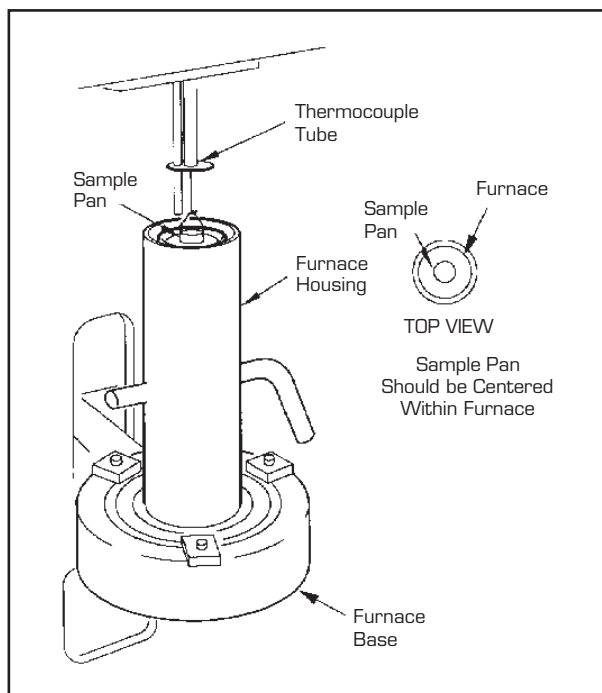

Figure 2.18
2. Check the alignment of the sample pan within the furnace. It should hang freely, roughly centered, and should not be touching the sides of the furnace or the thermocouple tube (Figure 2.18).